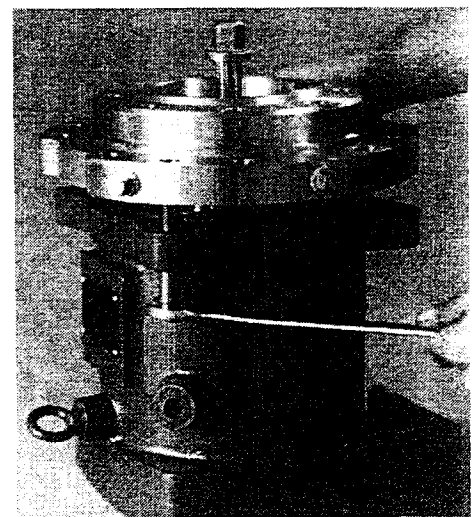

Figure 14
7. Place two M20 bolts (spaced at 180 degrees) into the threaded ears of the frame adapter to jack the rear casing away from the frame adapter [Fig. 14]. Jack evenly to avoid binding between the rear casing and outer magnets.